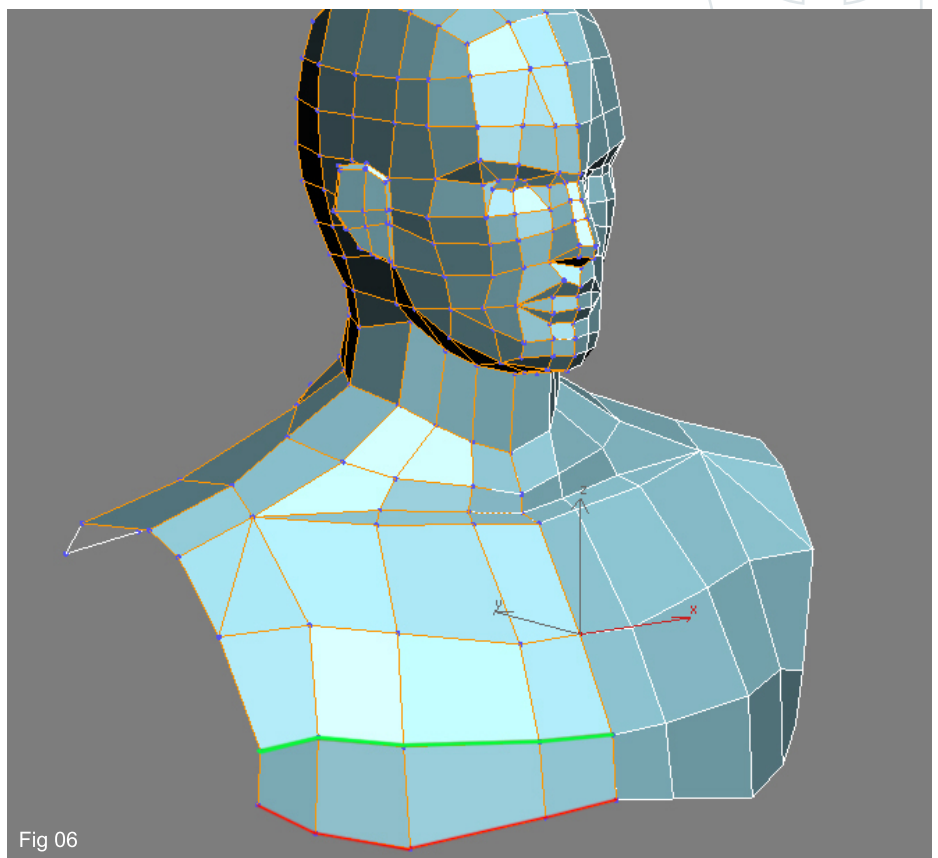

Fig 06
6. Now it is time to begin forming the chest area by selecting the bottom row of edges on the front of the torso (green line in Fig06) and duplicating them downwards (red line in Fig06) using the same method.